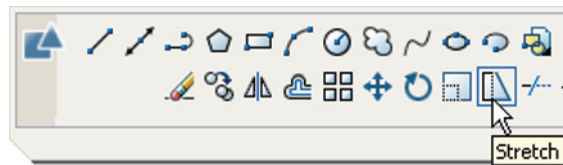

Fig. 5.33 The **Stretch** tool icon from the **2D Draw** control panel
2. Call the **Stretch** tool – either *click* on its tool icon in the **2D Draw control panel** (Fig. 5.33), or *left-click* on its tool icon in the **Modify** toolbar, or *pick* its name in the **Modify** drop-down menu, or *enter s* or *stretch* at the command line, which shows: